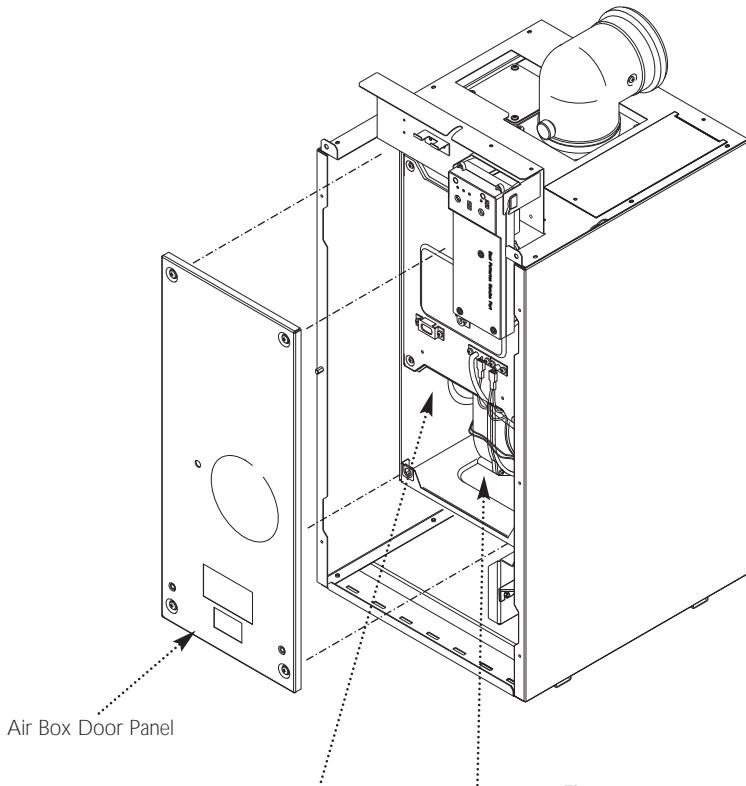

Fig. 50
1. Remove the airbox door panel by loosening the four $1/4$ turn screws (Fig. 50).